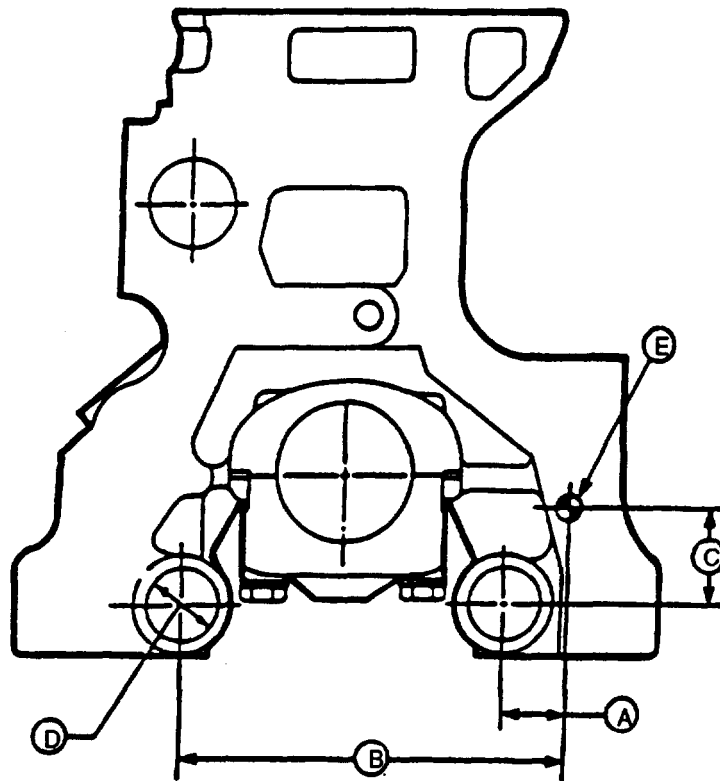

FIGURE 3-114. Balancer Shaft Bushing Line Boring References
- a. Line bore engine block to specification listed below. Refer to FIGURE 3-114 for References A through E.
**Reference all line boring dimensions from front left dowel pin (E).**
- (1) A.. 1.653 to 1.655 inches (41.985 to 42.035 mm)
- (2) B.. 10.157 to 10.159 inches (257.985 to 258.035 mm)
- (3) C.. 2.558 to 2.560 inches (64.986 to 65.036)
- (4) D.. 1.7015 to 1.7025 inches (43.237 to 43.263 mm)